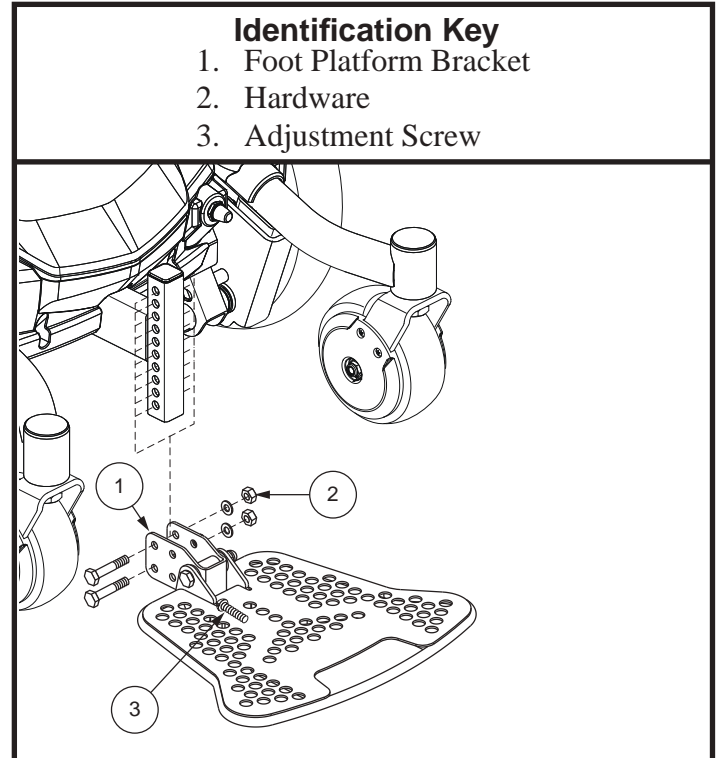

Figure 15. Foot Platform Adjustment
1. Remove the hardware from the foot platform bracket. **See figure 15 or 16.**
1. Remove the hardware from the foot platform bracket. **See figure 15.**
You can adjust the angle of the foot platform. **See figure 15.**